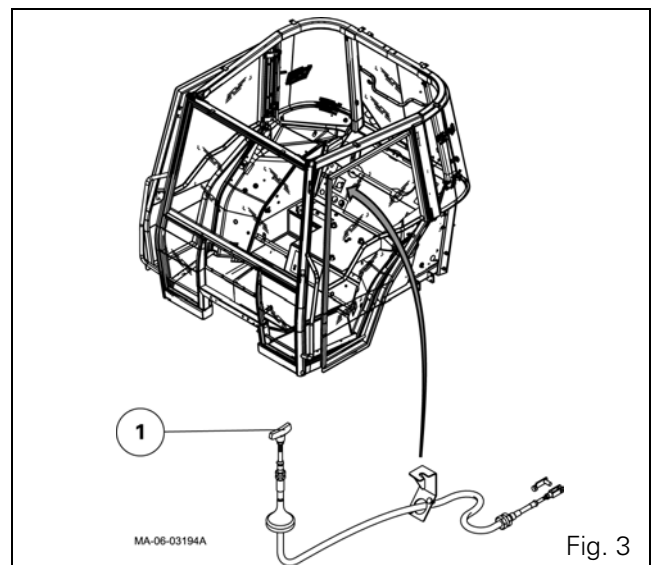

Fig. 3
9. Check the operation of the mobile plate by operating the lever (1) (Fig. 3) on the console inside the cab.